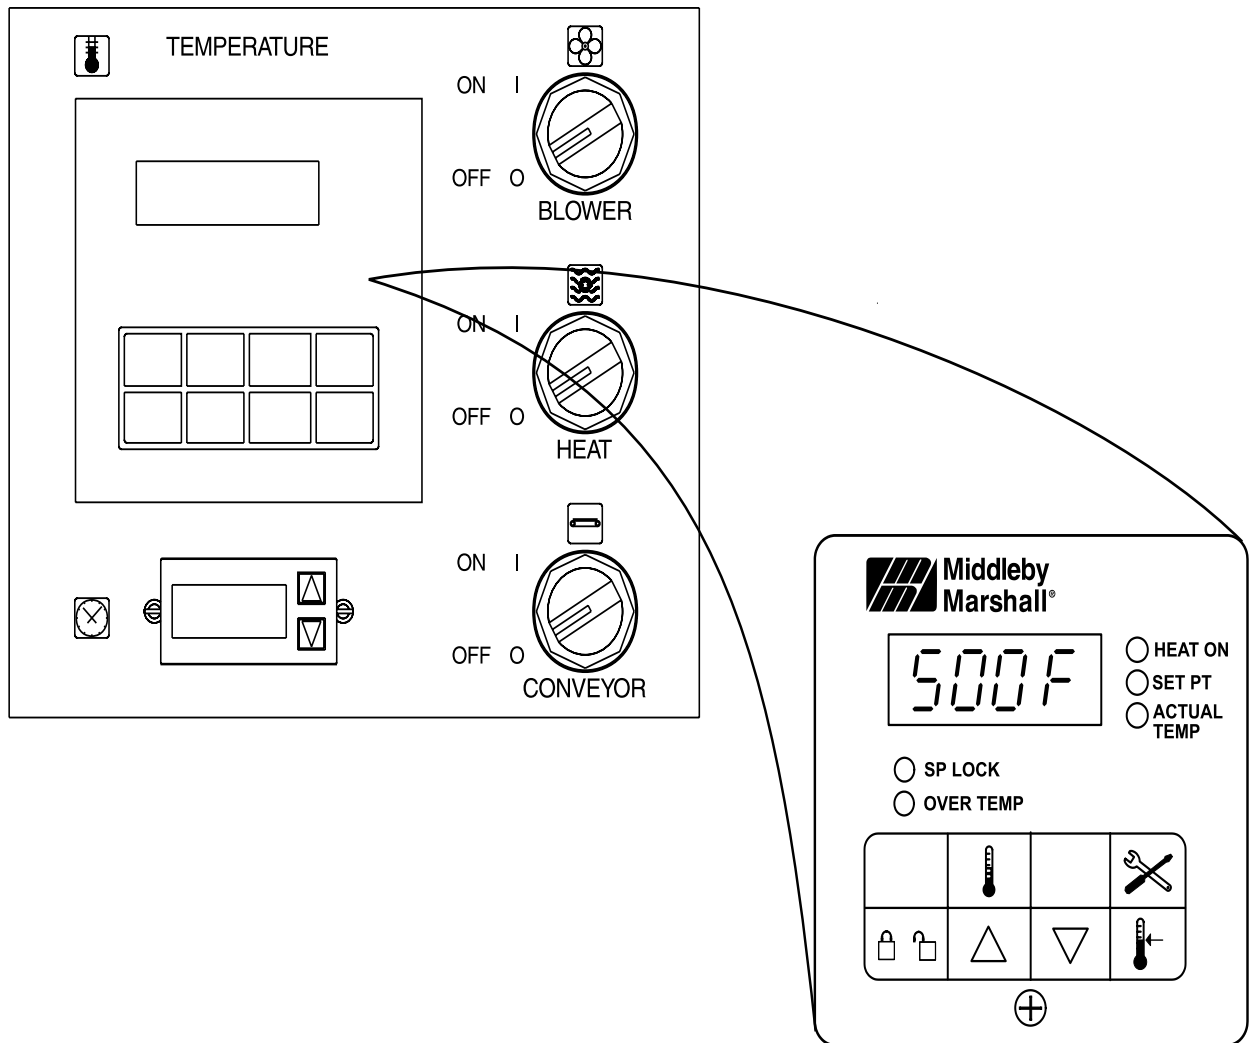

Figure 3-6. Control Panel
1. Turn the BLOWER switch (Figure 3-6) to the "ON" or "I" position. This starts the main blower fan and the cooling fans. The blower circulates air through the air fingers and must stay on during the cooking or baking process.
2. Check to see if the cooling fans (see Figure 1-8) are operating when the blower switch (see Figure 3-6) is turned "ON" or "I". The cooling fans cool the control components and blower motor. The cooling fans, located at the rear of the oven blows air into and through the cabinet. Air is exhausted through the front of the cabinet and also out the front of the oven. Refer to Daily Maintenance Section for fan intake checking procedure.
3. Turn the CONVEYOR switch (Figure 3-6) to the "ON" or "I" position. This starts the conveyor belt moving through the oven. Set the conveyor speed for the desired baking time. Refer to the following Procedures E, F and G.
5. Turn the HEAT switch (Figure 3-6) to the "ON" or "I" position. This completes a circuit to supply electric power to the electric heating system.